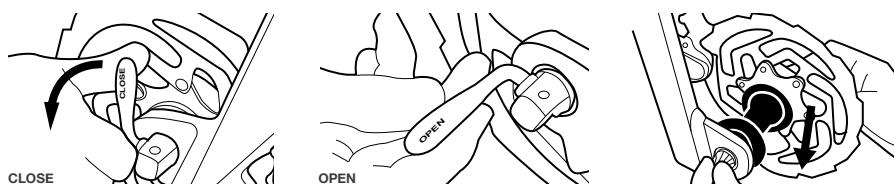

Figure 15. Opening the quick release axle
1. Open the axle's lever. You should now be able to read the engraved "OPEN" on the lever as in *Figure 15*.